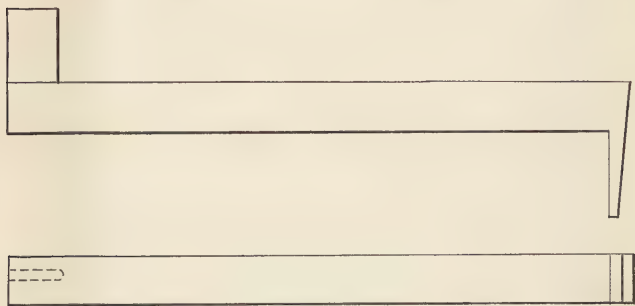

Fig. 12. A Handy Screw Driver.
**Screw Driver.**—In Fig. 12 is a screw driver that will be appreciated in tool room or machine shop. It can be made from round or flat steel. I have sometimes